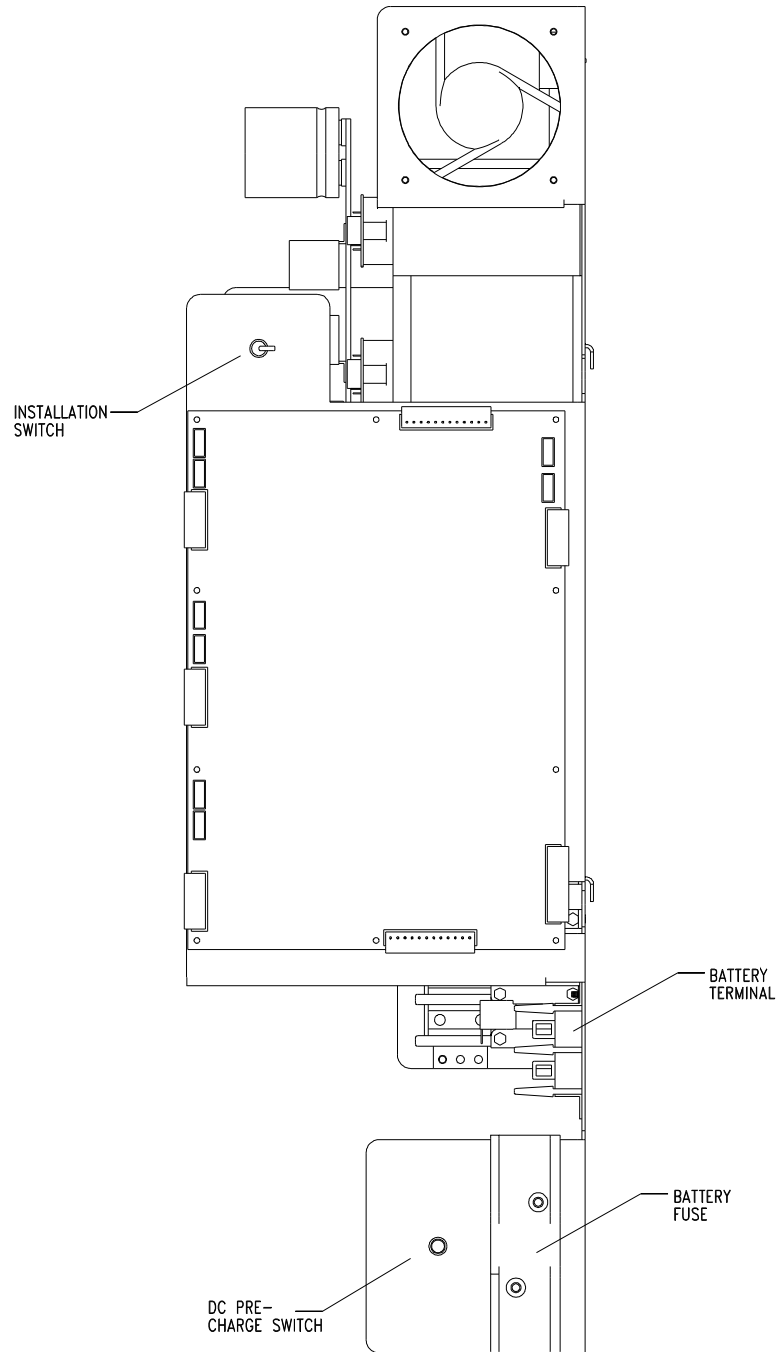

Figure 7.0 Battery Fuse, DC Pre-charge Switch & Installation Switch
2. Locate the DC Pre-charge Switch (S2), see figure 7.0; press it for five seconds; then, install the battery fuse (F1) inside the electronics cabinet.